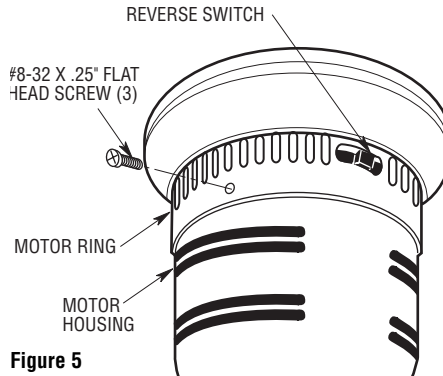

Figure 5
- 6. Carefully slide the motor ring up the motor housing and position the ring so that the reverse switch slot in the ring is in the correct position (Figure 5).
- 7. Secure the motor ring to the motor housing assembly using the three #8-32 x .25" flat head screws supplied (Figure 5).